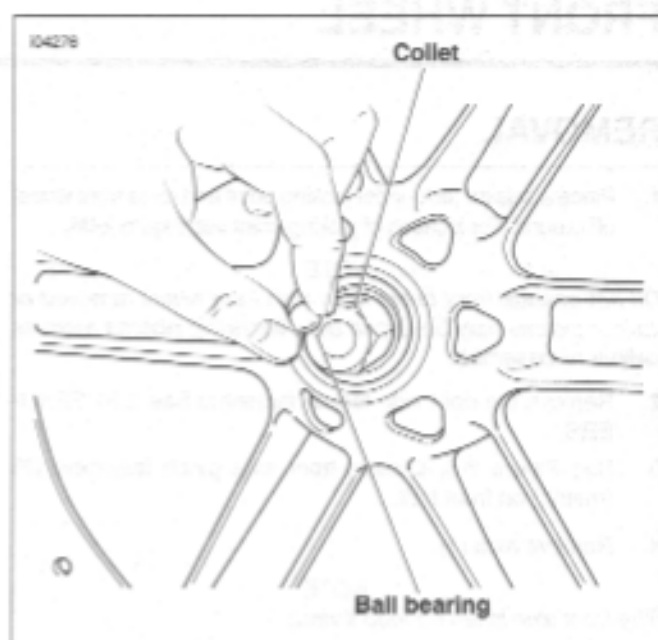

Figure 2-8. Install Collet and Ball Bearing
3. Assemble the short forcing screw (1), nut (2), ball bearing (3), washer (4) and bridge (5) from the Wheel Bearing Installer/Remover (HD-44060).
4. See Figure 2-8. Insert the Front Wheel Bearing Remover Collet (B-43993-7) into the wheel bearing until it fully seats against the bearing.